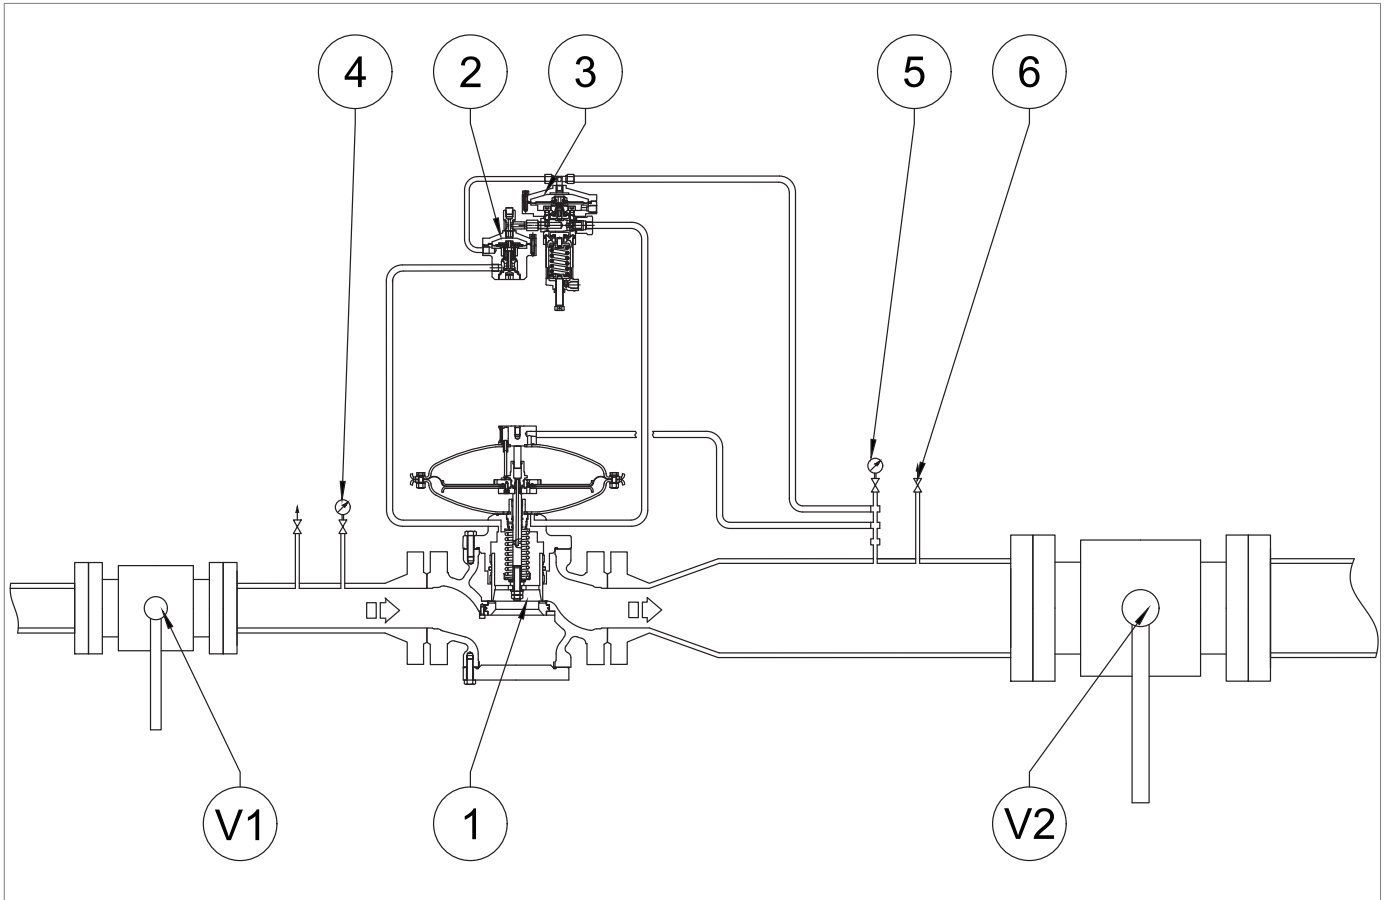

Fig. 8.32. Commissioning the regulator REVAL 182
1	<p>Increase the downstream pressure to the slam-shut valve's cut-out value by turning the main regulator's pilot adjustment screw to check that the setting is correct.</p> <p>! NOTICE!</p> <p>Check the pressure referring to the pressure gauge (Fig. 8.32, ref.5) downstream of the main regulator.</p> <p>If the slam-shut valve:</p> <ul style="list-style-type: none"> • trips before the expected pressure value: screw in (clockwise) the adjustment ring nut (13) so as to further compress the spring (11); • does not trip at the expected pressure value: unscrew (anti-clockwise) the adjustment ring nut (13) so as to relieve the spring (11).
2	By opening the drain cock (Fig. 8.32, ref. 6), decrease the pressure in the downstream section to the calibration value of the main regulator.
3	Close the bleed cock (Fig. 8.32, ref.6).